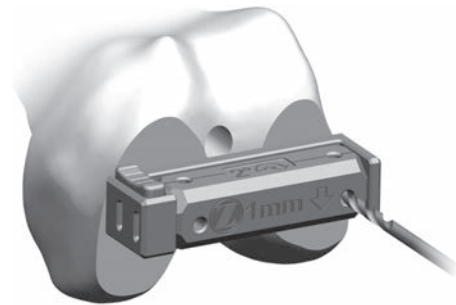

Fig. 125
- After making sure the appropriate face is locked in place, drill through the holes that have been selected using a 3.2mm drill (**Fig. 125**).